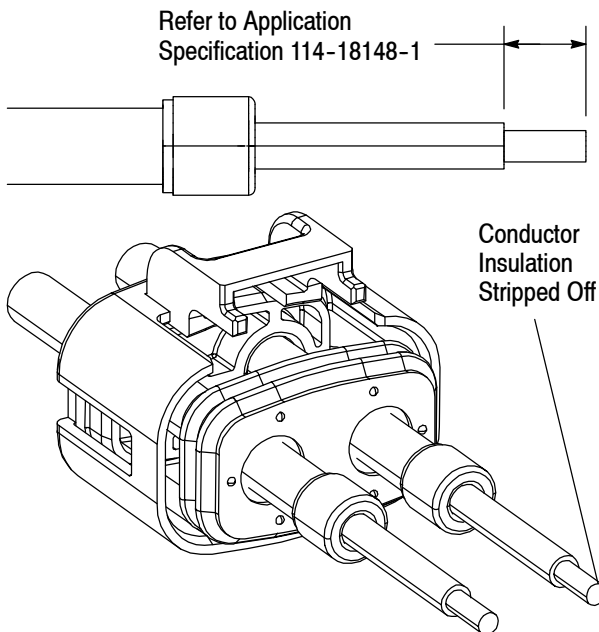

Figure 7
6. Strip the conductor insulation off of each wire to a length as defined in the MCP2.8 Application Specification 114-18148-1. See Figure 7.